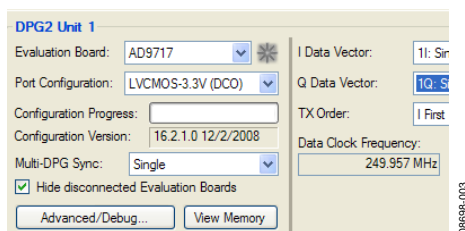
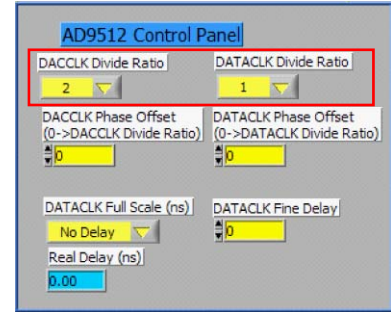
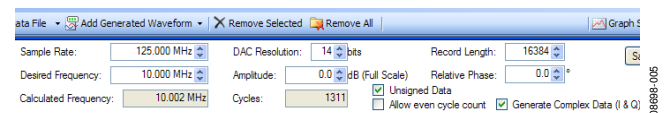

Figure 3. DPG2 Board Configuration
Figure 4. AD9512 Clock Divider Setting
Figure 5. Single Tone Generation
The program should automatically recognize and display the evaluation board, such as the **AD9717** used in this example, in the drop-down menu for the **Evaluation Board**, as shown in Figure 3.
2. Select **LVC MOS-3.3V (DCO)** for the **Port Configuration** as the DPG2 data clock input, also shown in Figure 3.
4. Select the clock dividers for the data clock going to the DPG2, and for the clock going to the DAC. The divider ratio for the DAC clock should be double the ratio for the data clock as shown in Figure 4.
The clock going to the DAC should be no greater than 125 MHz. When the AD9512 configuration is complete, verify the clock frequency output to the DPG2 in Figure 3. The frequency displayed represents the frequency of the clock sent to the DPG2. It should be no greater than 250 MHz.
5. In the DPG2 window (see Figure 5), select **Add Generated Waveform**, and then select **Single Tone**. A single tone panel is added to the vector list. Enter a clock frequency of 125 MHz for **Data Clock Frequency**. Note that this frequency is half of the frequency in Figure 3 for **Data Clock Frequency** as the data clock sent to the DPG2 is twice the rate of the DAC. However, the vector generation is done using the DAC clock (data clock/2) (see Figure 4).
See Figure 5 for the appropriate settings.